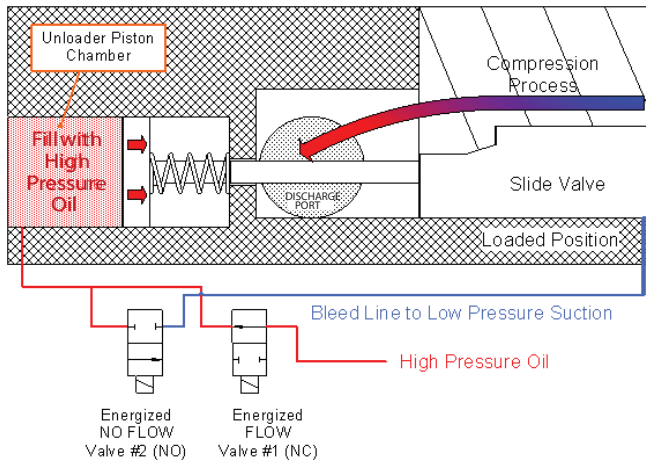

Fig. 19 — Fully Loaded Operation
Provisions should be made to isolate the oil filter using some combination of shutoff valves and/or check valves. See Fig. 19.
- To fully load the compressor, both solenoid #1 and #2 are energized (see Fig. 19). This allows high-pressure oil to enter the unloader piston chamber, moving the slide valve and providing more engagement under the screw rotors. Both solenoids should remain energized to maintain the full load position.